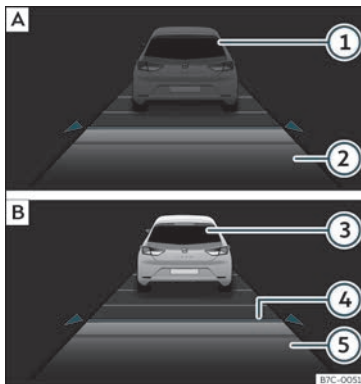
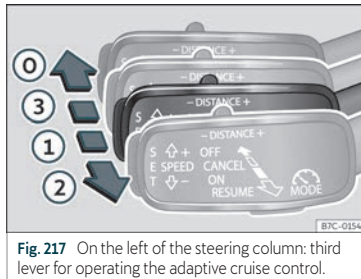
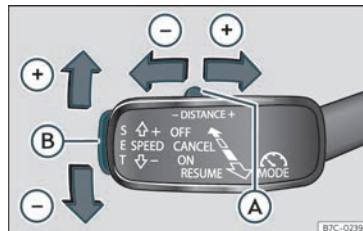

Fig. 215 On the instrument panel display: **A** ACC inactive (Standby). **B** ACC active.
Fig. 217 On the left of the steering column: third lever for operating the adaptive cruise control.
Fig. 218 On the left of the steering column: third lever for operating the adaptive cruise control.
Indications on the display >>> **Fig. 215:**
When the ACC is connected, the green control lamp (🟢) will light up on the instrument panel, and the programmed speed and ACC status will be displayed >>> **Fig. 215**.
- To activate the ACC, move the third lever to position **ON** >>> **Fig. 217 ①**. At this time, the ACC is not active and there is no programmed speed.
- Next, press button **SET** >>> **Fig. 218 ②** or move the lever to position **RESUME** >>> **Fig. 217 ②**. At this moment the ACC is activated and the current speed and distance are programmed. The picture in the box will change to Active mode >>> **Fig. 215 B**.
- To set the speed, move the third lever up **+** or down **-** to the desired speed >>> **Fig. 215 ⑥**. The speed adjustment is made at 10 km/h (6 mph) intervals.
RESUME >>> **Fig. 217 ②**, or to decrease it press button **SET** >>> **Fig. 218 ②**.
- To increase or reduce the distance, press button **A** to the right or left >>> **Fig. 218**.
The instrument panel display modifies the selected distance >>> **Fig. 215 ④**. There are 5 distance levels to choose from. CUPRA recommends level 3. The set distance can be changed when the vehicle is stopped or while driving >>> **A**.
- To disconnect the ACC move the lever to position **OFF** (fixed) >>> **Fig. 217 ③**. An **ACC deactivated** message appears and the function is totally deactivated.